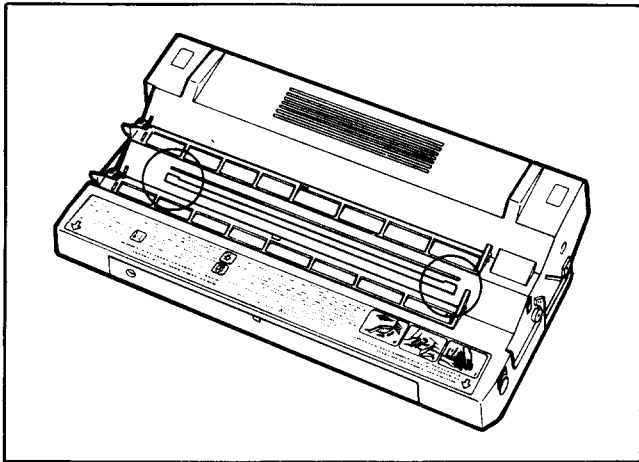

Fig. 10-13
• **Primary corona wire** - This is located within the toner cartridge (Fig. 10-13). Take the wire cleaner stored inside the printer (Fig. 10-14, 10-15), and insert it in one end of the slot, making sure it goes in as far as possible (Fig. 10-16). Move it back and forth the length of the slot (Fig. 10-17).